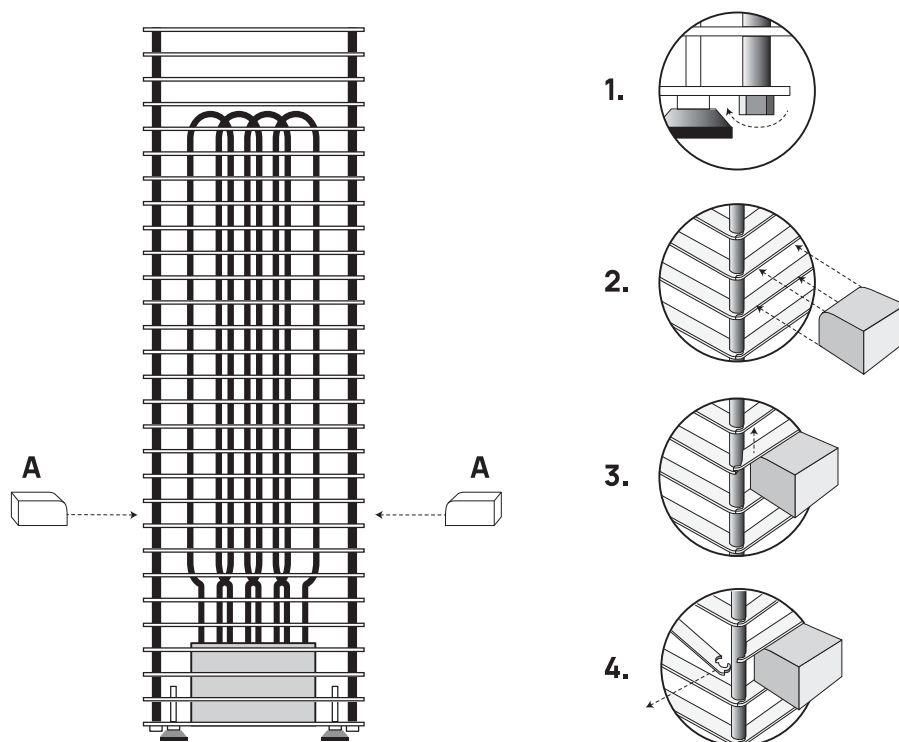

Figure 3. Opening the ribs of HUUM CLIFF electric heater
To simplify the installation of the stones, all the ribs of the heater can be removed by using wooden blocks (A). See **Figure 3**.